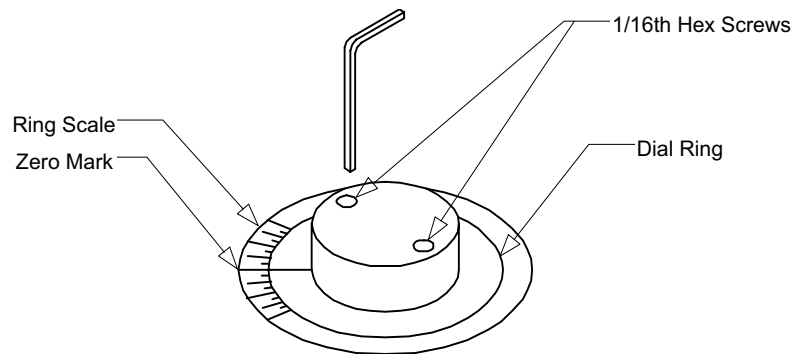

Figure 7
- 10) In case an adjustment is required. To reset the dial ring to zero, (Fig. 7) on the scale of the laser box. Loosen the two 1/16 hex screws on the toe knob enough to move the dial ring freely. Now tighten the hex screws.